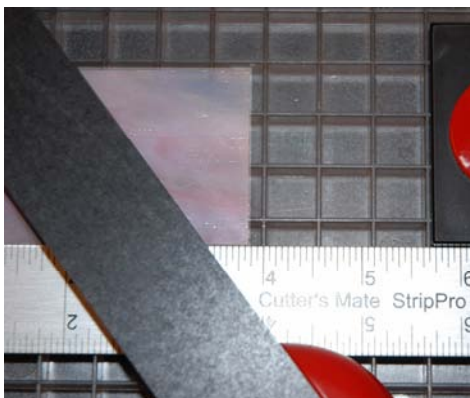

figure 5
5. Make your orientation cut on your strip of glass. (figure 5)